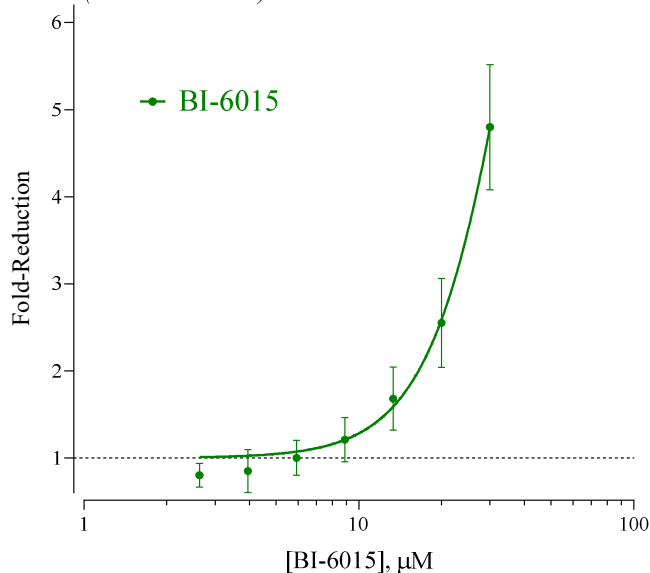

Figure 3. Inverse-Agonist dose-response of Human HNF4 α .
- *Optional*: inverse-agonist/antagonist reference compound / antibody (*e.g.*, Fig. 3.)